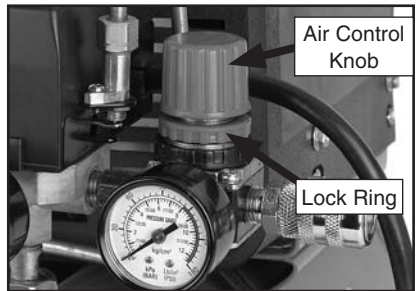

Figure 7. Tool air control knob.
1. Adjust the air control knob, shown in **Figure 7**, to set the PSI that will be delivered to your tool. Turn the knob clockwise to increase the pressure or counterclockwise to decrease the pressure.
2. Rotate the lock ring shown in **Figure 7** against the bottom of the air control knob to prevent changes in the air pressure.